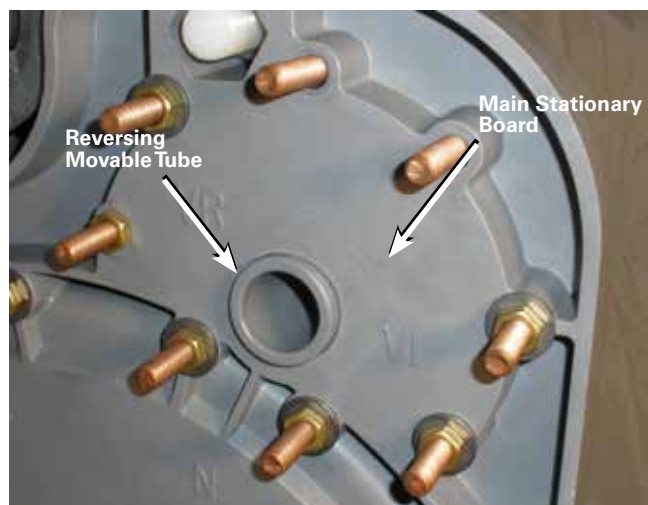

Figure 43. Aligning with main contact board.
16. Slide the stationary and movable contact assembly toward the contact panel. Align the movable contact assembly so that the reversing movable tube aligns with and goes through the hole in the contact panel. At this point the stationary contact and movable contact should be fully engaged with the contact panel. See Figure 43.